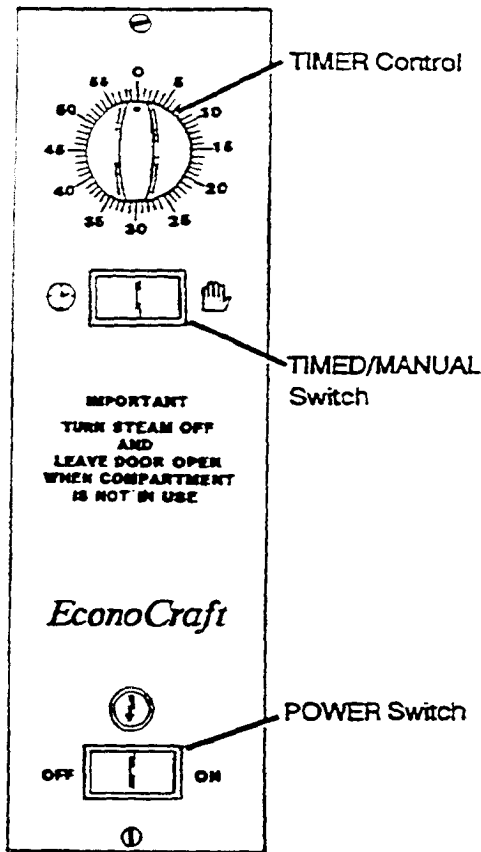

Figure 2-18. Control Panel
1. Refer to Figure 2-18. Press the TIMED/MANUAL switch to the MANUAL position by pressing the right side of the switch.
2. Refer to Figure 2-18, and set the TIMED/MANUAL switch to the TIMED position.